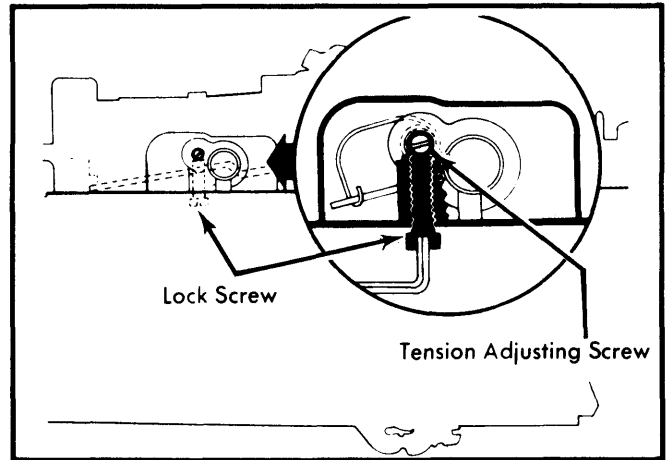

Fig. 10 Adjusting Air Valve Spring
2) Turn tension adjusting screw clockwise until air valve just closes. Then turn adjusting screw clockwise specified number of turns. See Fig. 10.